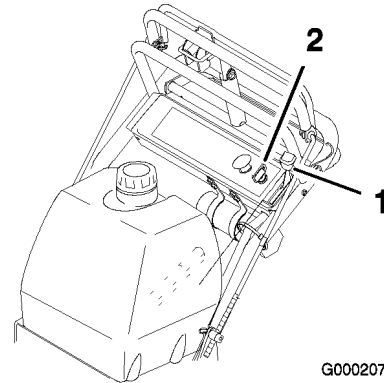

Figure 19
1. Move the throttle lever to the slow position (Figure 19).
3. Turn the ignition key to off (Figure 19).